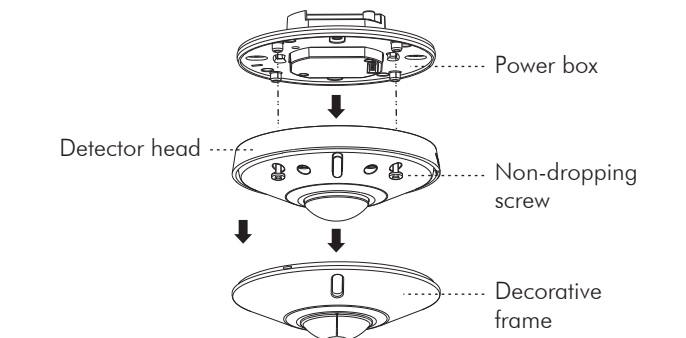

FIG.8
- 3.4.1.1 Take off decorative frame of PMSCDD, then take the detector head apart from power box by unscrew its 4pcs non-dropping screws (See FIG.8).
- 3.4.1.4 Fix the detector head on power box by inserting its four non-dropping screws into the corresponding screw holes, then cover up the decorative frame (See FIG.8).